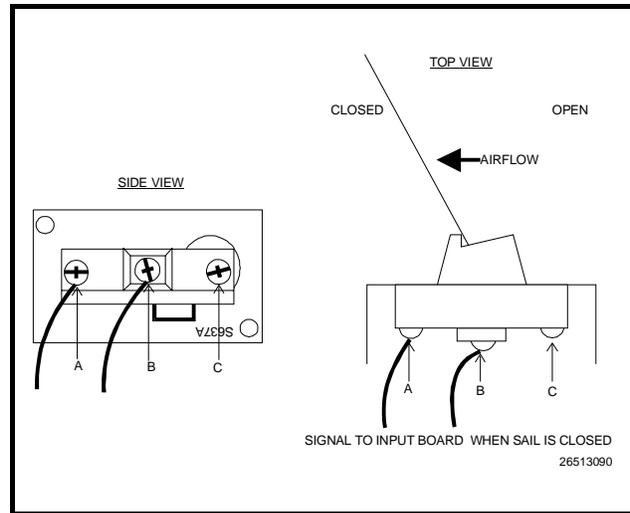

**Figure 42-S437A Switch Connection for Signaling When Airflow is Present**
1. The S437A can only relay one state. Wire the switch so that one wire connects to both the A and B terminals (Figure 42). Run each wire to an available point on a CPC input board.